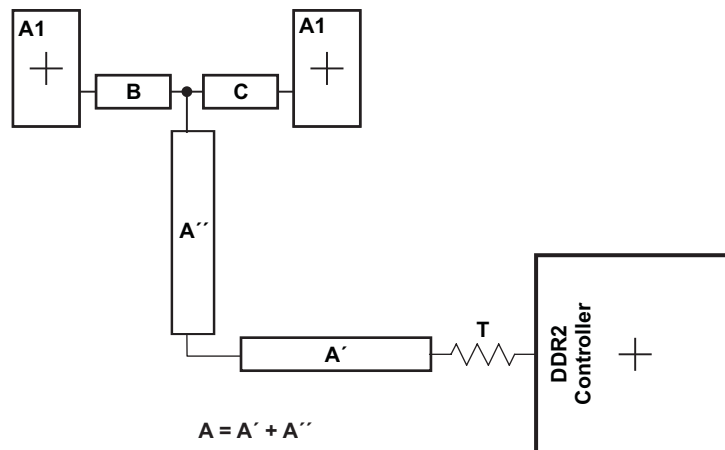

Figure 8-10. CK and ADDR_CTRL Routing and Topology
Figure 8-10 shows the topology of the routing for the CK and ADDR_CTRL net classes. The route is a balanced T as it is intended that the length of segments B and C be equal. In addition, the length of A ($A'+A''$) should be maximized.
(1) The length of segment A= $A'+A''$ as shown in Figure 8-10.
(2) Center-to-center spacing is allowed to fall to minimum (w) for up to 500 mils of routed length to accommodate BGA escape and routing congestion.
(3) CACLM is the longest Manhattan distance of the CK and ADDR_CTRL net classes.